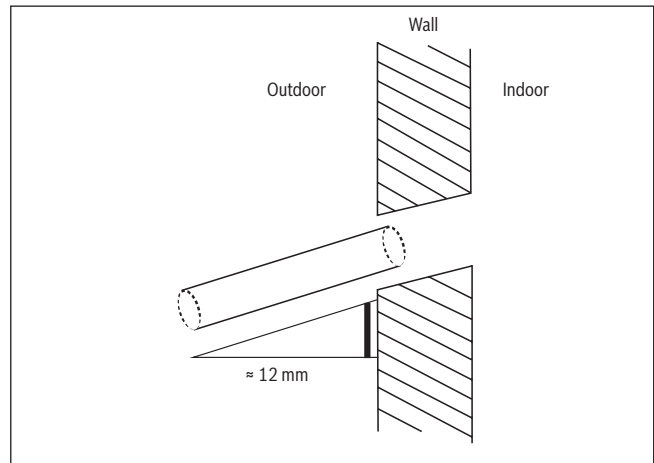

Fig. 30.
Install the drainpipe as shown in Figure 30.
3. Using a 65 mm core drill, drill a hole in the wall. Make sure that the hole is drilled at a slight downward angle, so that the outdoor end of the hole is lower than the indoor end by about 12 mm. This will ensure proper water drainage (See Fig. 30). Place the protective wall cuff in the hole. This protects the edges of the hole and will help seal it once you finish installation.